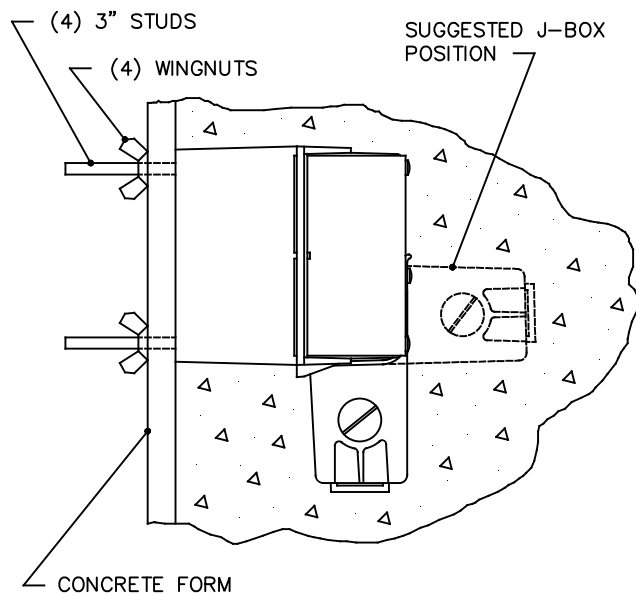

FIG. 1
2. ATTACH THE 3" LOCATING STUDS TO HOUSING PER FIG. 1. BACK OUT SCREWS ON THE OUTSIDE SO THAT NO MORE THAN 1/16" OF EACH SCREW SHOWS ON THE INSIDE.
3. REPOSITIONING THE J-BOX PER FIG. 1 IS SUGGESTED PRIOR TO INSTALLATION, BUT NOT MANDATORY.
7. INSTALL HOUSING ASSEMBLY ON CONCRETE SIDE OF FORMS. INSERT 3" LOCATOR STUDS THROUGH THE HOLES CREATED IN STEP 6 PER FIG. 1. TAKE CARE TO ORIENT THE HOUSING PER FIG. 1 AND ARROWS ON HOUSING. SECURE WITH WINGNUTS FROM MOUNTING KIT PROVIDED.